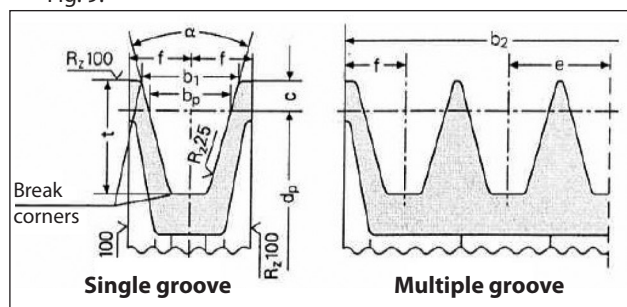

Fig. 8
- Use pulleys with V-belts with the size of the groove required/recommended by the manufacturer of belt used. In the absence of directions, follow Fig. 8 and the table in Fig. 9.